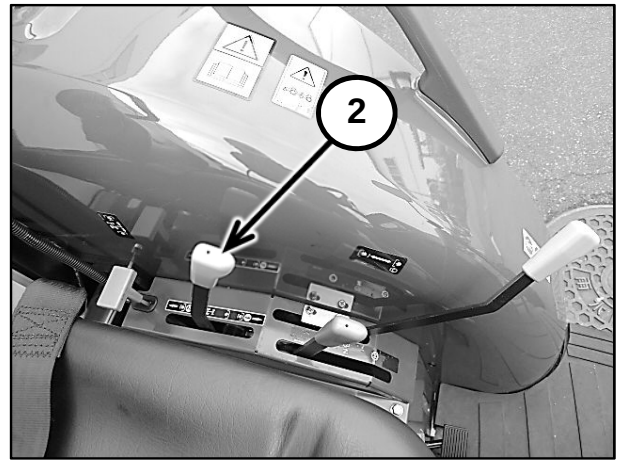

Figure 2-35
The PTO speed shift lever (2) in Figure 2-35, is located by the left-hand fender. It has two PTO speed positions. Always “Disengaged” position the PTO clutch control lever and bring the PTO drive to a complete stop before moving the PTO speed shift lever.